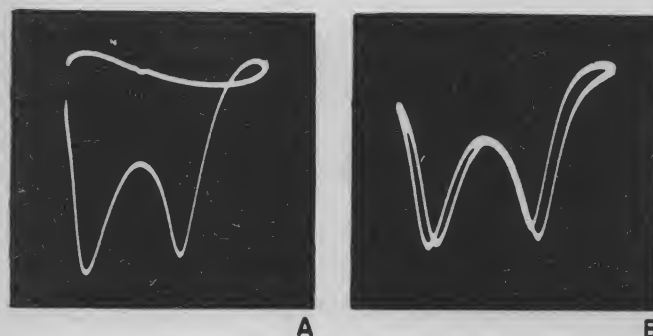

Fig. 10-3. Sweep curves with hum present.
*b. Hum.* If the sweep generator has retrace blanking, the zero reference line should be observed for evidence of hum. Absence of hum will be evidenced by a perfectly flat base line. If there is hum, it will be seen on the base line. Figure 10-3 (A) illustrates this condition.
If there is no retrace blanking feature on the sweep generator, it should be possible to superimpose the forward and reverse trace on the scope by proper adjustment of the phasing control. If the curves cannot be superimposed, it is evidence of hum. Figure 10-3 (B) illustrates this condition.